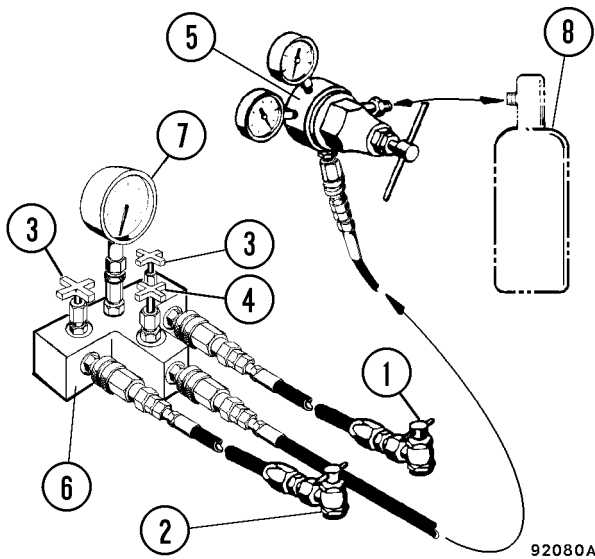

FIGURE 4-1. HYDRAIR CHARGING KIT
Assemble the charging kit as shown in Figure 4-1, and attach it to a container of pure dry nitrogen (8).
4. Charge the suspensions with nitrogen gas to a height just high enough to install the nitrogen charging blocks, but not to exceed 279 mm (11 in.). Close inlet valve (4, Figure 4-1).
10. Close inlet valve (4, Figure 4-1). Leave outlet valves (3) open for five minutes to allow the pressures in the suspensions to equalize.
11. Close outlet valves (3). Remove the charging kit components. Refer to "Removal of Charging Kit" earlier in this section.